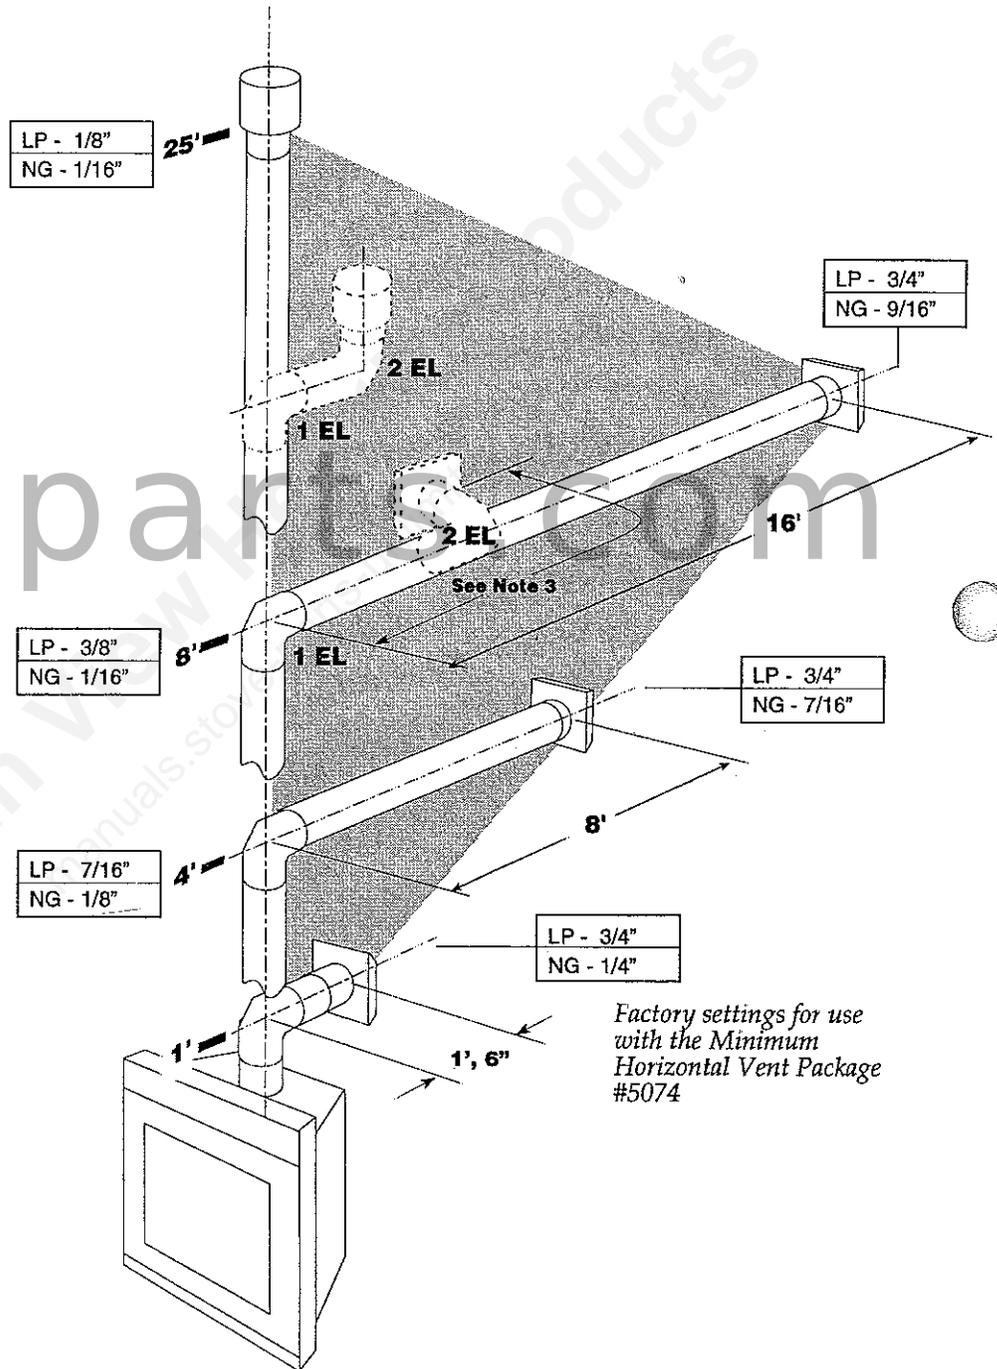

FIGURE 11. Maximum horizontal and vertical vent runs
Make certain that the vent installation meets the requirements as detailed in Figs 11 and 12 **In no case may the vent system exceed 25' vertically or 16' horizontally.**
2. One or two elbows are permitted within the shaded area indicated in Fig. 11. Additional elbows may be included if, a) you deduct 5' horizontal run for each additional elbow and, b) you open the burner air shutter 1/16" per elbow. A snorkel counts as two 90° elbows.
3. Horizontal run is counted as a total through all elbows. The vent run may bend around corners as necessary, but the total horizontal run may not exceed the maximums shown in Fig. 11.
The burner air shutter is set at the factory for operation with the minimum horizontal vent configuration pictured at the bottom of Fig. 11. Air shutter settings appropriate for other vent configurations are noted in the boxes adjacent to the illustration. All dimensions indicate the shutter **opening**. See page 25 for shutter location and directions.